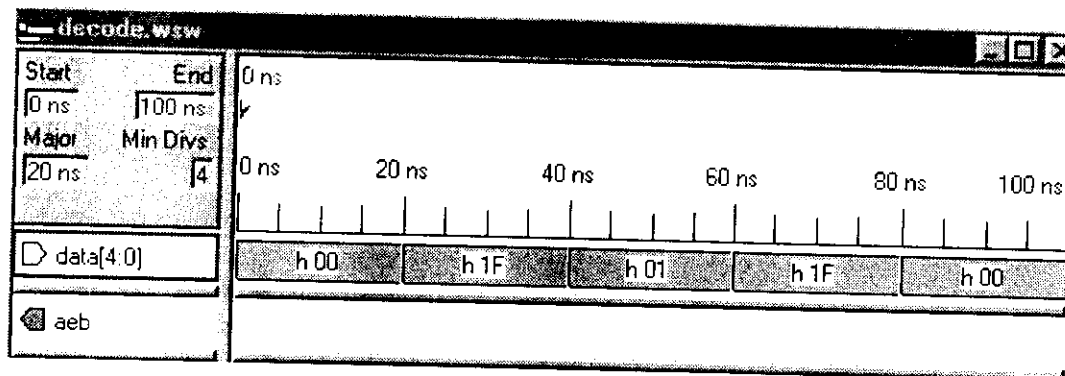

Figure 4. The decode.wsw Stimulus File
8. Repeat this procedure to assign five values as shown in Figure 4 below: